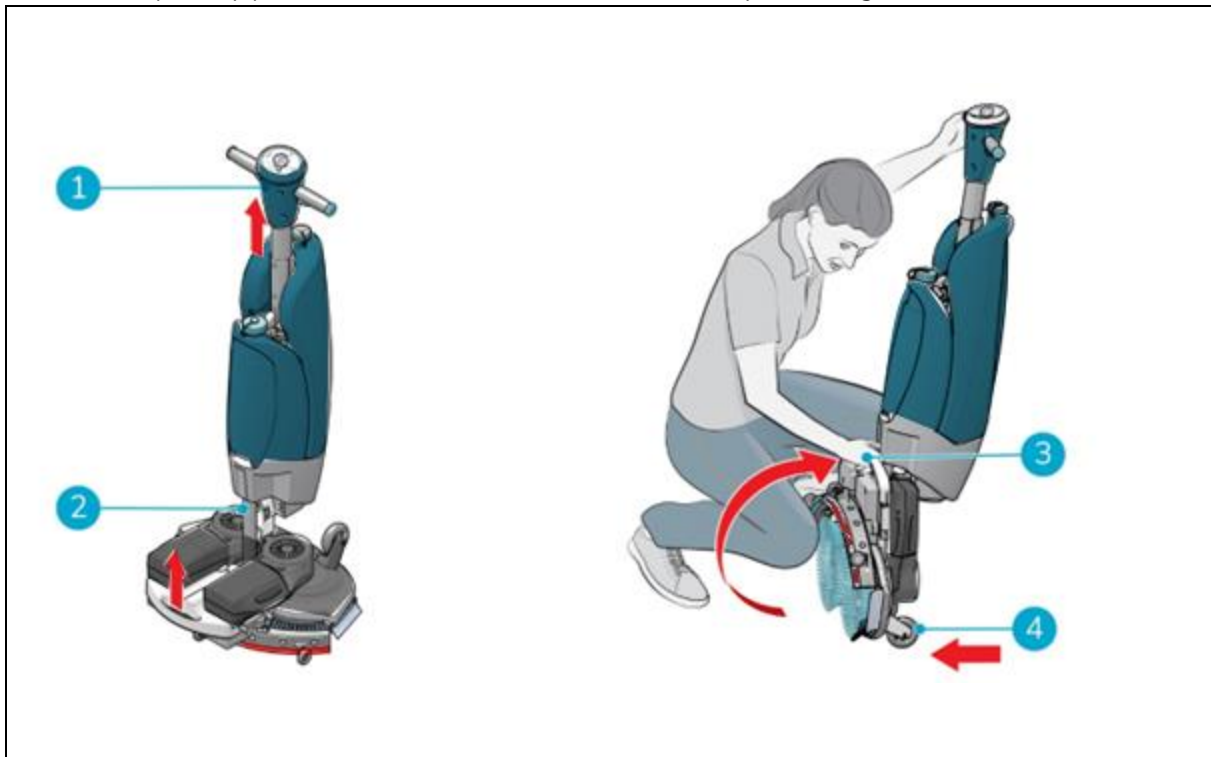

Figure 6
1. Make sure the vacuum hose (Figure 6, pos 2) is pushed back into the machine so it cannot get squeezed.
2. Crouch down and hold the handle (Figure 6, pos 1) with one hand while holding the scrub deck (Figure 6, pos 3) with your other hand.
3. Lift the scrub deck slowly until it stands upright on the front wheels (Figure 6, pos 4). Guide the body towards the scrub deck until it snaps into a resting position.